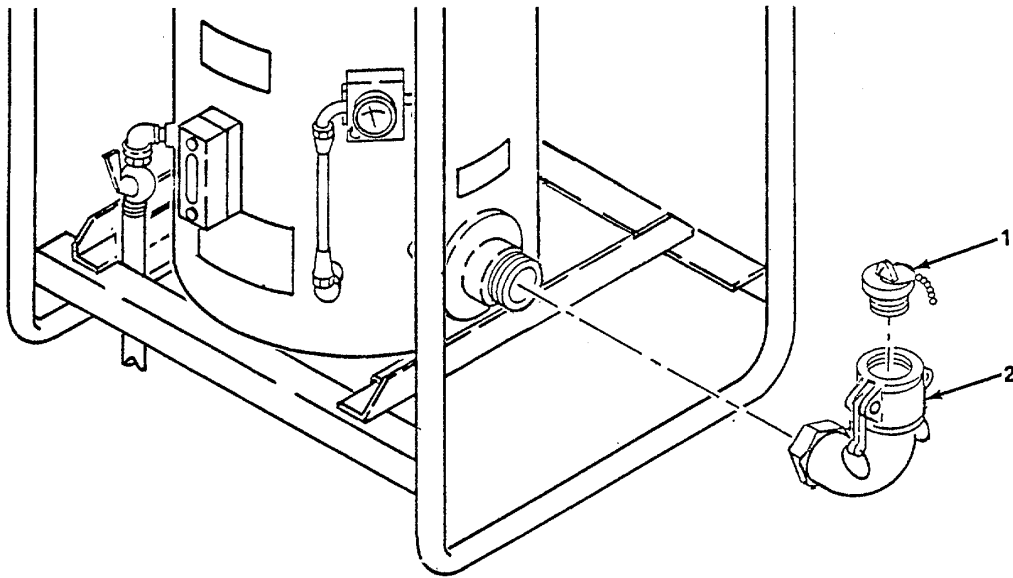

Figure 4-11. *Coupling Half Quick Disconnect (Inlet), Replace.*
- (2) *Coupling half quick disconnect (inlet).* (figure 4-11)
- (a) Remove dust plug (1).
- (b) Remove coupling half quick disconnect (2).
- (c) Apply sealing compound to threads on quick disconnect (2).
- (d) Install coupling half quick disconnect (2).
- (e) Install dust plug (1).